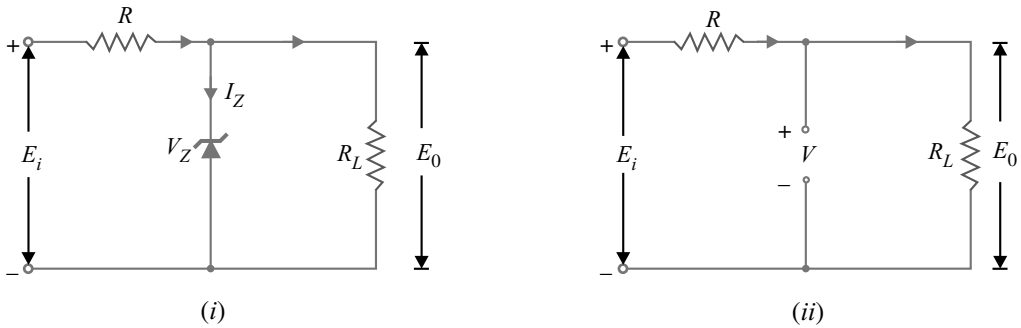

Fig. 4.66
1.  $E_i$  and  $R_L$  fixed. This is the simplest case and is shown in Fig. 4.66 (i). Here the applied voltage  $E_i$  as well as load  $R_L$  is fixed. The first step is to find the state of zener diode. This can be determined by removing the zener from the circuit and calculating the voltage  $V$  across the resulting open-circuit as shown in Fig. 4.66 (ii).